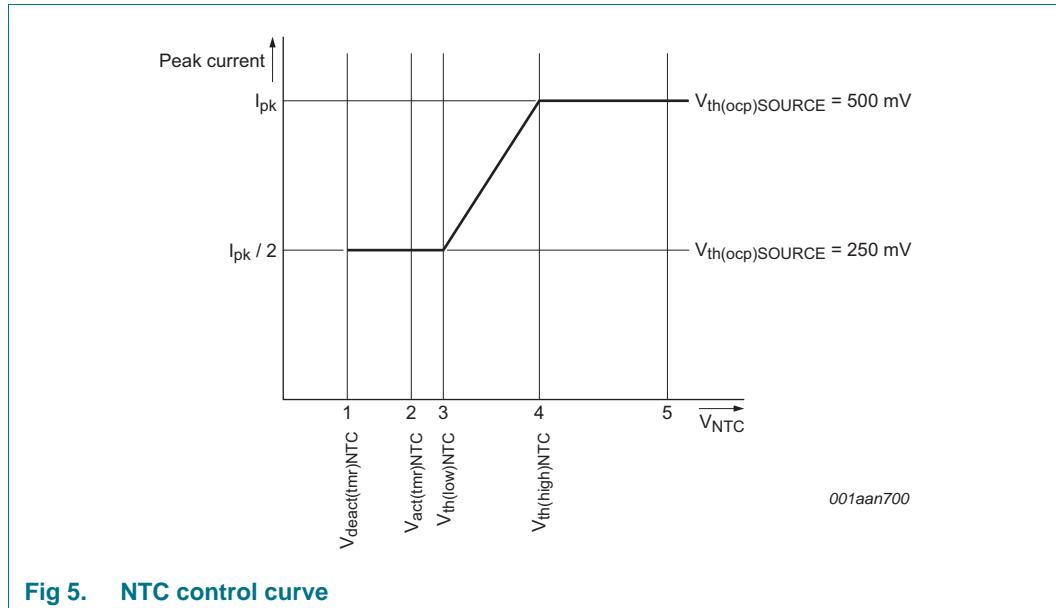

Fig 5. NTC control curve
When the voltage on the NTC pin is higher than $V_{th(\text{high})\text{NTC}}$, see Figure 5 (4), the converter delivers nominal output current. When the voltage is lower than this level, the peak current is gradually reduced until $V_{th(\text{low})\text{NTC}}$ is reached, see Figure 5 (3). The peak current is now half the peak current of nominal operation. When $V_{act(\text{tmr})\text{NTC}}$ is passed, see Figure 5 (2), a timer starts to run to distinguish between the following situations:
- If the low-level $V_{deact(\text{tmr})\text{NTC}}$ is not reached within time $t_{to(deact)\text{NTC}}$ Figure 5 (1), LED overtemperature is detected. The IC stops switching and attempts to restart from the HV pin voltage. Restart takes place when the voltage on NTC pin is higher than $V_{th(\text{high})\text{NTC}}$, see Figure 5 (4). It is assumed that the reduction in peak current did not result in a lower NTC temperature and LED OTP is activated.
- If the low-level $V_{deact(\text{tmr})\text{NTC}}$ is reached within the time $t_{to(deact)\text{NTC}}$ Figure 5 (1), it is assumed that the pin is pulled down externally. The restart function is not triggered. Instead, the output current is reduced to zero. The output current rises again when the voltage is higher than $V_{deact(\text{tmr})\text{NTC}}$.
The NTC pin can be used to make a soft start function. During switch-on, the level on the NTC pin is low. By connecting a capacitor (in parallel with the NTC resistor), a time constant can be defined. The time constant causes the level on the NTC pin to increase slowly. When passing level $V_{th(\text{low})\text{NTC}}$ Figure 5 (3), the convertor starts with half of the maximum current. The output current slowly increases to maximum when $V_{th(\text{high})\text{NTC}}$ Figure 5 (4) is reached.